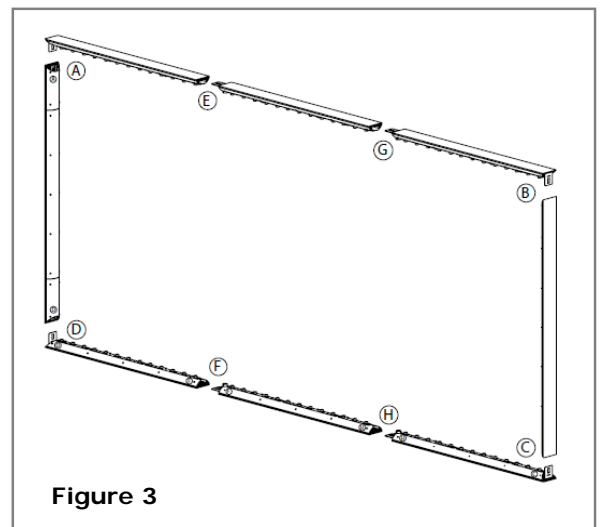

Figure 3
4. If there are frame segments with intermediate ends, match the labels (ie. E to E, F to F) to align adjoining pieces. When complete, there will be a single rectangle of segments. **See Figure 3.**